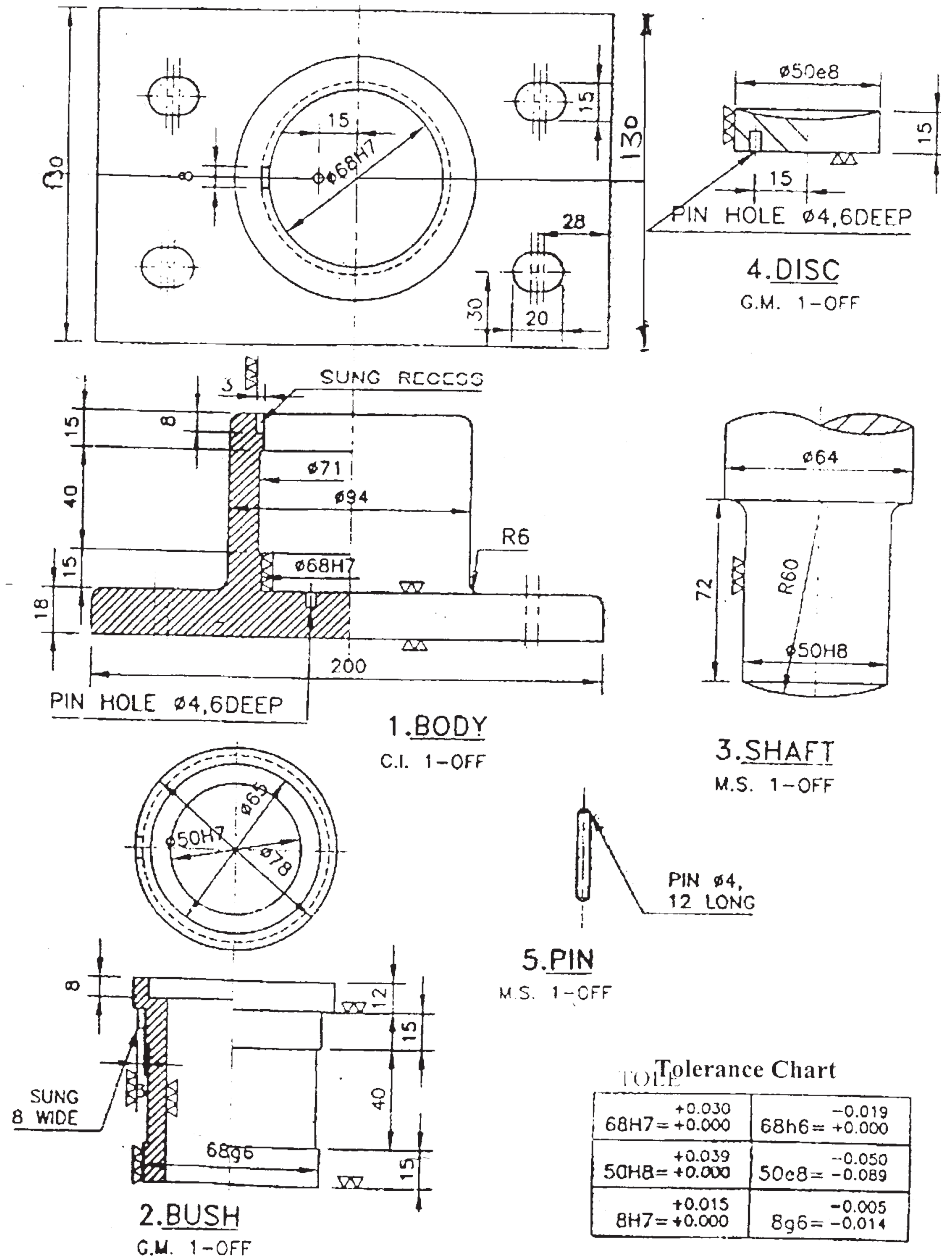

Fig. No. 6
b) Fig. No. 6 shows the details of foot step bearing.